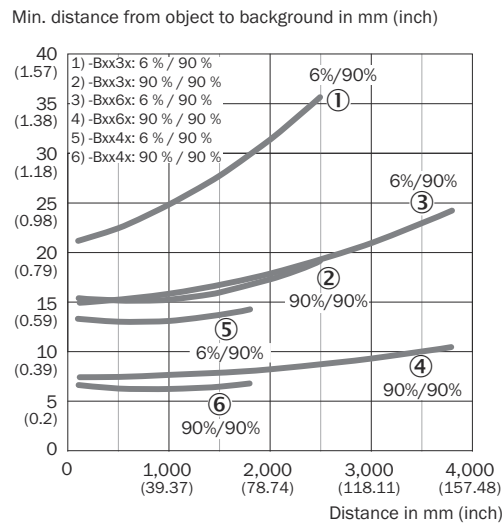

Figure 5: Curve 1
Check the application conditions: Adjust the sensing range and distance to the object or background and the remission capability of the object according to the corresponding diagram [figure 5] (x = sensing range, y = minimum distance between the object and background in mm (object remission/background remission) (remission: 6% = black, 90% = white) (based on standard white DIN 5033)).
The minimum distance (= y) for background suppression can be read from the diagram [cf. figure 5 ①] as follows: